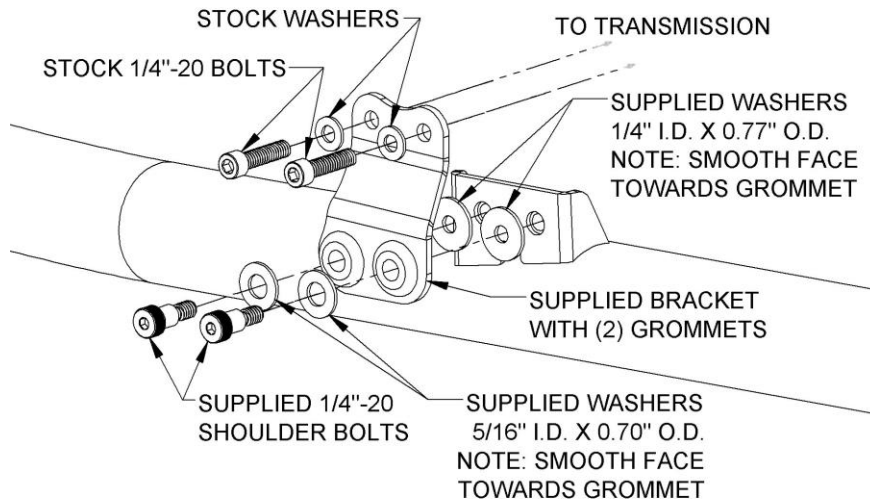

FIGURE 6
- Using **FIGURE 6** below, insert the 5/16" I.D. washer over both supplied shoulder bolts, make sure the smooth side of the washer is facing toward the threads of the bolts. Insert them through the grommets on the supplied bracket, be sure the bracket is oriented as shown in **FIGURE 6**. On the other side of the bracket, install the 1/4" I.D. washer over the shoulder bolt threads. Ensure that the smooth side of each washer is contacting the grommet. (The stamped side with sharp edge must face away from the grommet to ensure long life of the grommet.) Apply blue Loctite to the threads of the shoulder bolts. Thread both shoulder bolts and bracket assembly loosely onto the welded mount on the crossover assembly. See **FIGURE 6**.